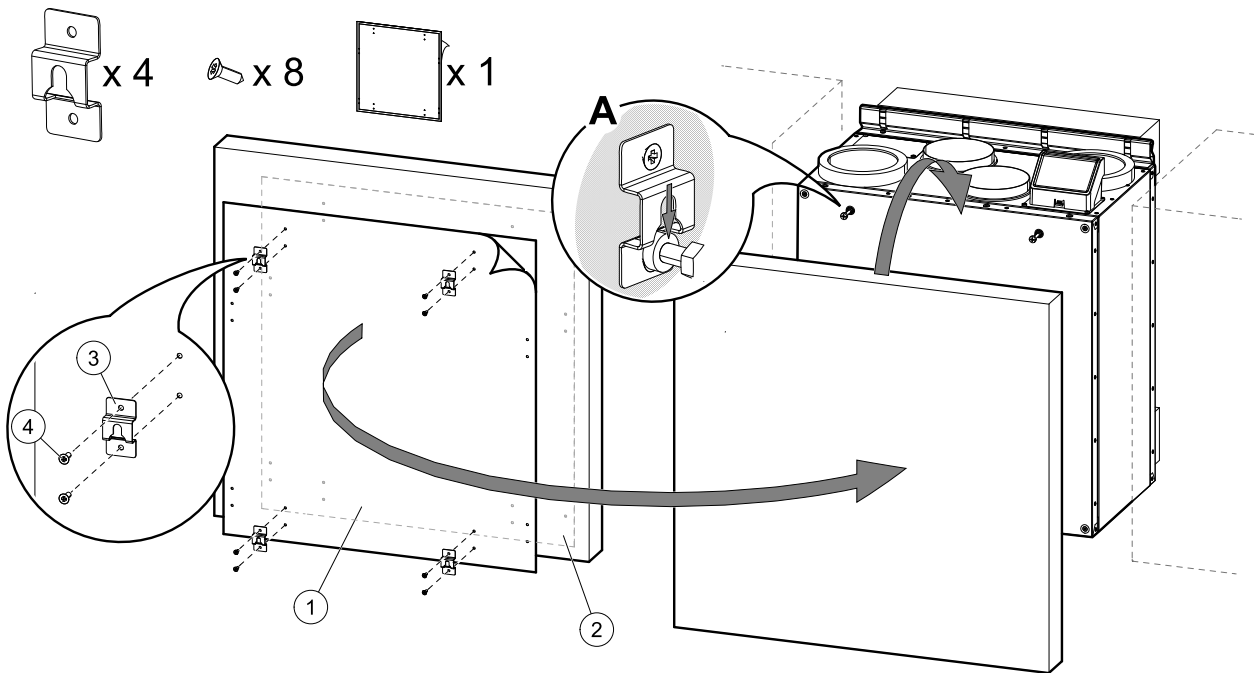

Fig. 16 Installation of hooks and mounting of the kitchen furniture panel
2. Sticker with marked holes (figure 16, pos. 1) is included with the unit. Holes mark spots for screws to secure hooks. Place the sticker on a back of the kitchen furniture panel, figure 16, pos. 2), adjust position of the sticker according to the panel size and position of the unit between cabinets. Size of the sticker is the same as the unit.
Once correct position is found, attach four hooks (figure 16, pos. 3) by fastening each with two screws (figure 16, pos. 4). Hang the kitchen furniture panel on protruding bolts (figure 16, pos. A).